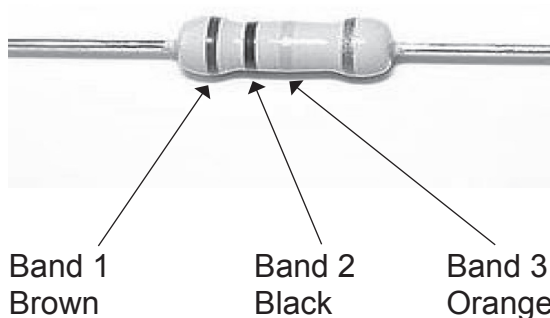

Fig. 2
- (b) The colour bands of the first three bands of a four band resistor are shown in **Fig. 2**. Use the information below to work out the value of this resistor.